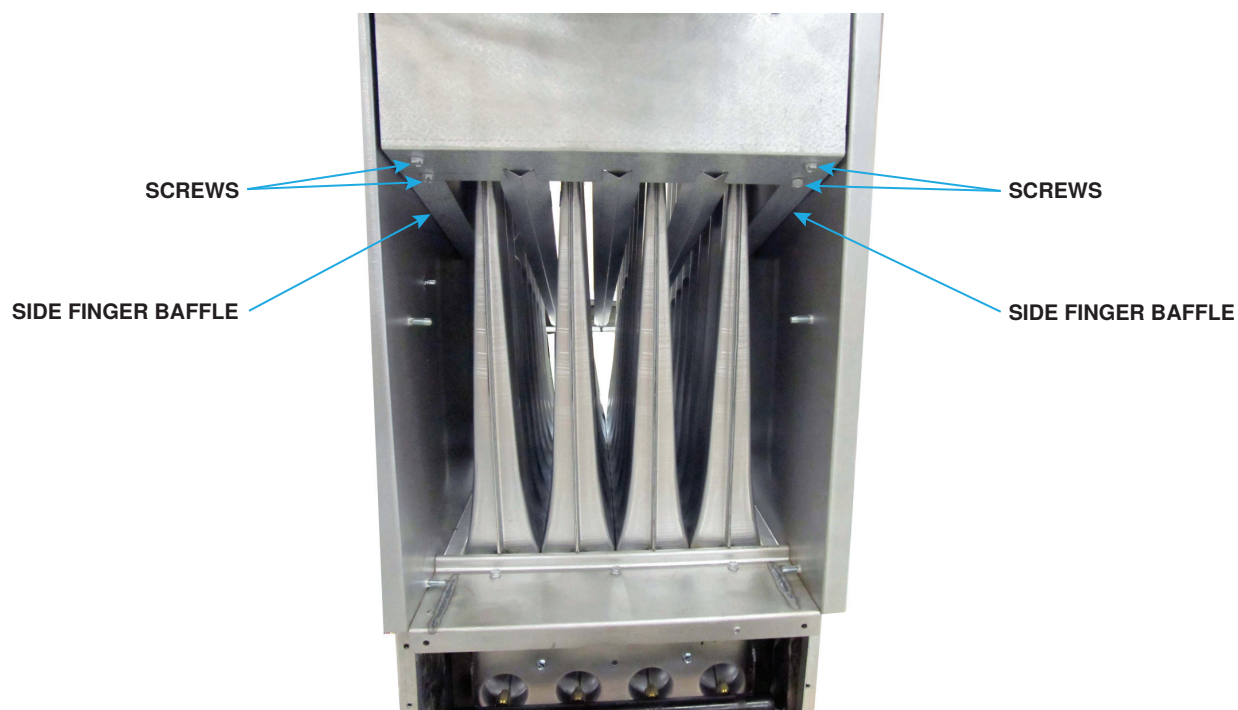

Figure 4. Side Finger Baffle Removal
2. Remove side finger baffles (see Figure 4):